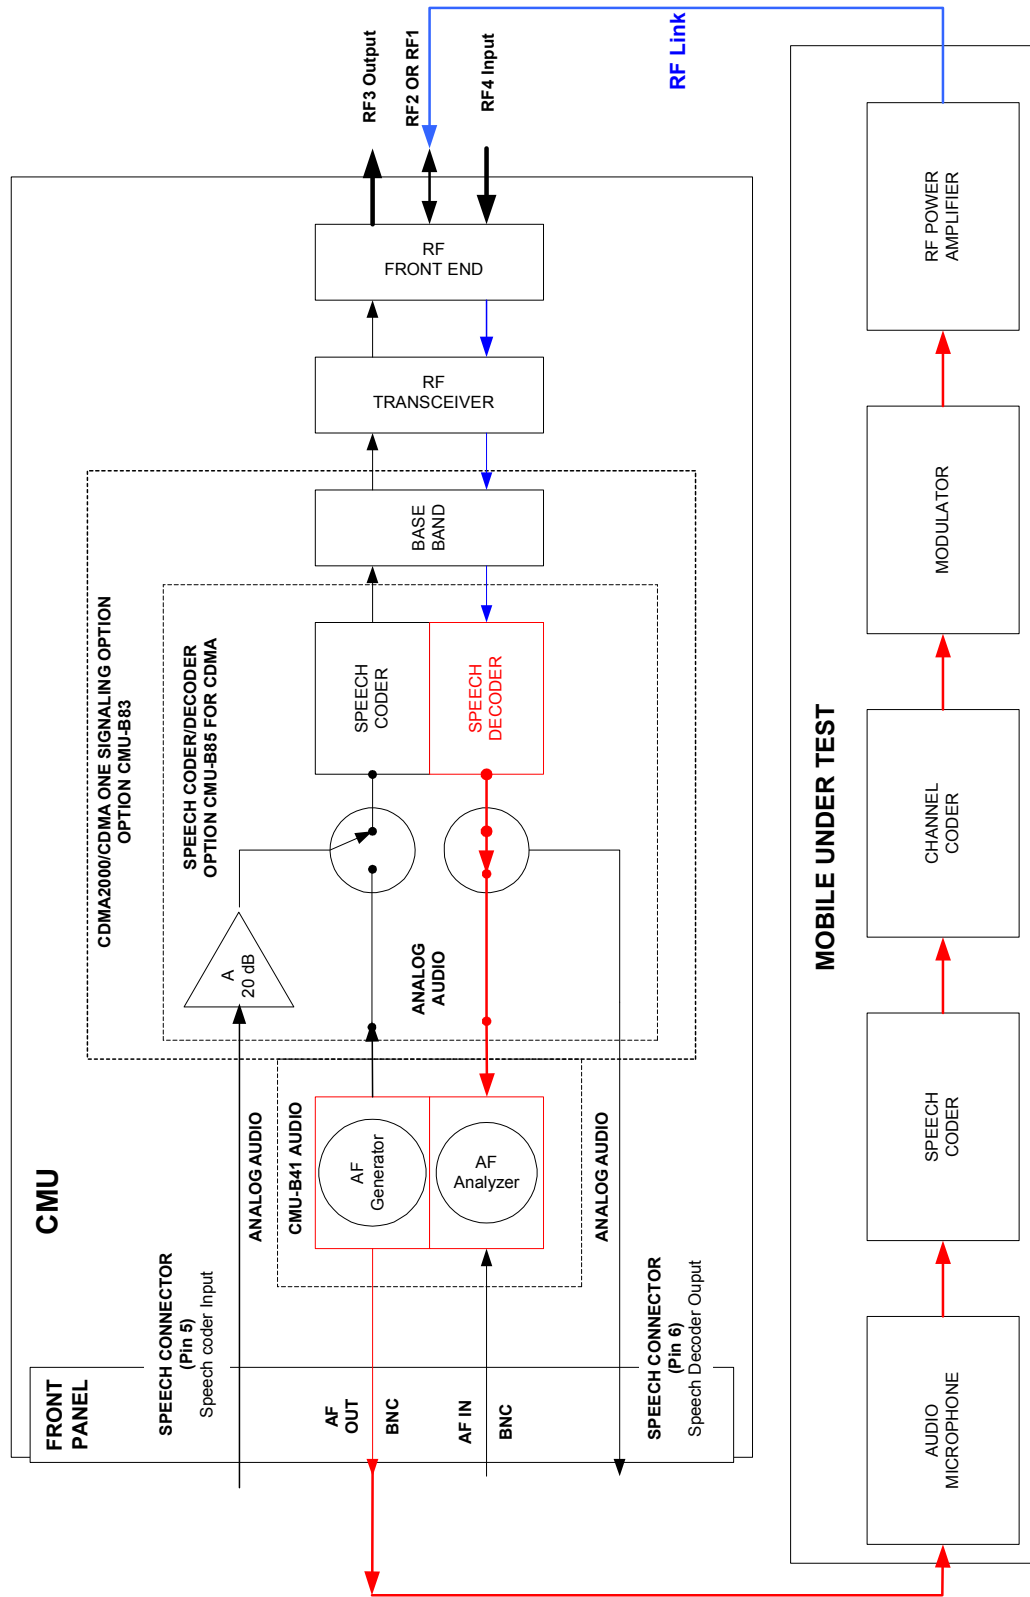

Figure 4-81 Reverse Link Audio Test Setup
- Figure 4-81 illustrates the setup to test audio via the reverse link.